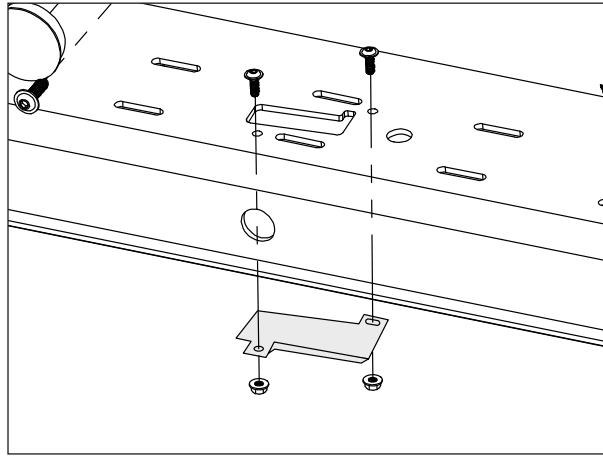

Figure 21
6. If equipped, install passive entry module onto the center section in the shown location and orientation using the supplied M4x12 flanged head bolts and nuts (fig. 21).